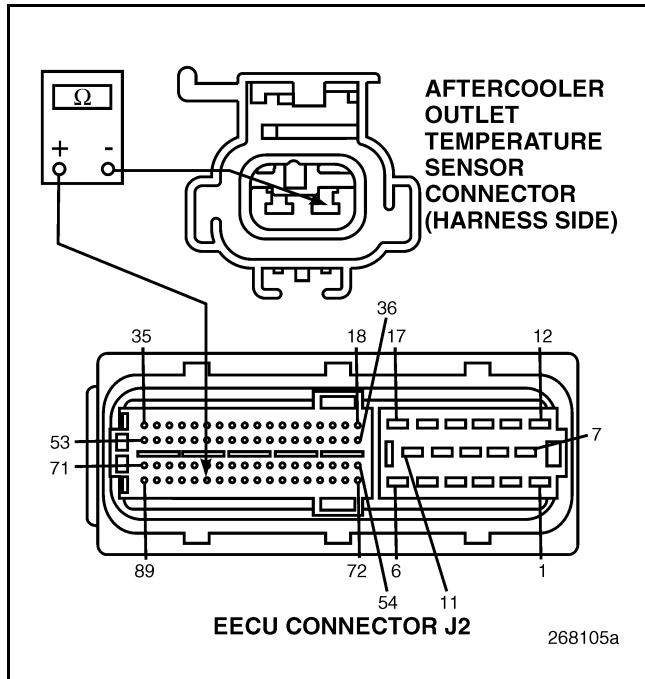

Figure 807
4. Check for continuity between pin 1 of the AOT Sensor harness connector and EECU harness connector J2 pin 84 (see Figure 807).